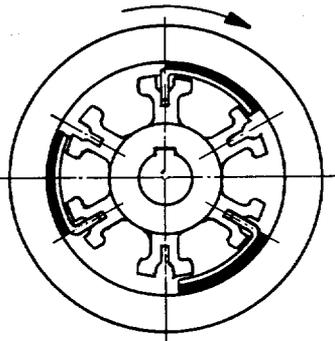

Fig. 3a
For the first few starts, smoking of the clutch is normal; it will cease after a short working period. If the bowl gets up to speed too quickly (see Sect. 3.4), the motor will pull too high a starting current. This condition can be easily overcome by reducing the number of shoes to 4 or 3 or 2. Make sure shoes are evenly distributed (Fig. 3a).
- 1) The clutch shoes must be inserted in clutch driver 202g evenly distributed (either 2, or 3, or 4, or 6 shoes). See Fig. 3a.